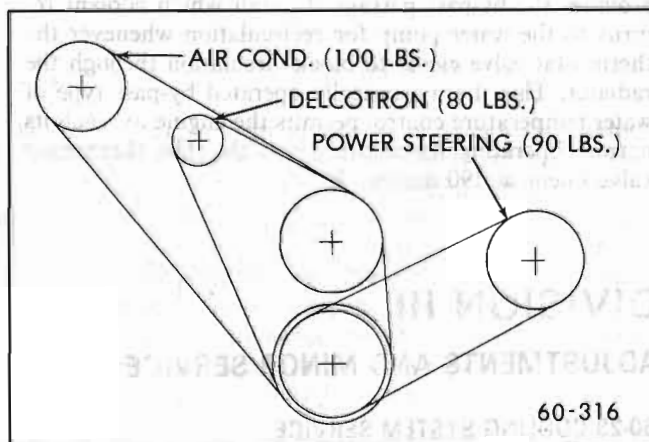

Figure 60-72 Engine Belt Tension Chart
If the power steering oil pump belt is removed it should be adjusted to tension specified, in Figure 60-72.
If the Air Conditioner compressor belt is disturbed it should be adjusted as specified, in Figure 60-72.
3. Install fan pulley or pulleys and fan blade, tighten attaching bolts securely. Install belts and adjust for proper tension. See Figure 60-72.